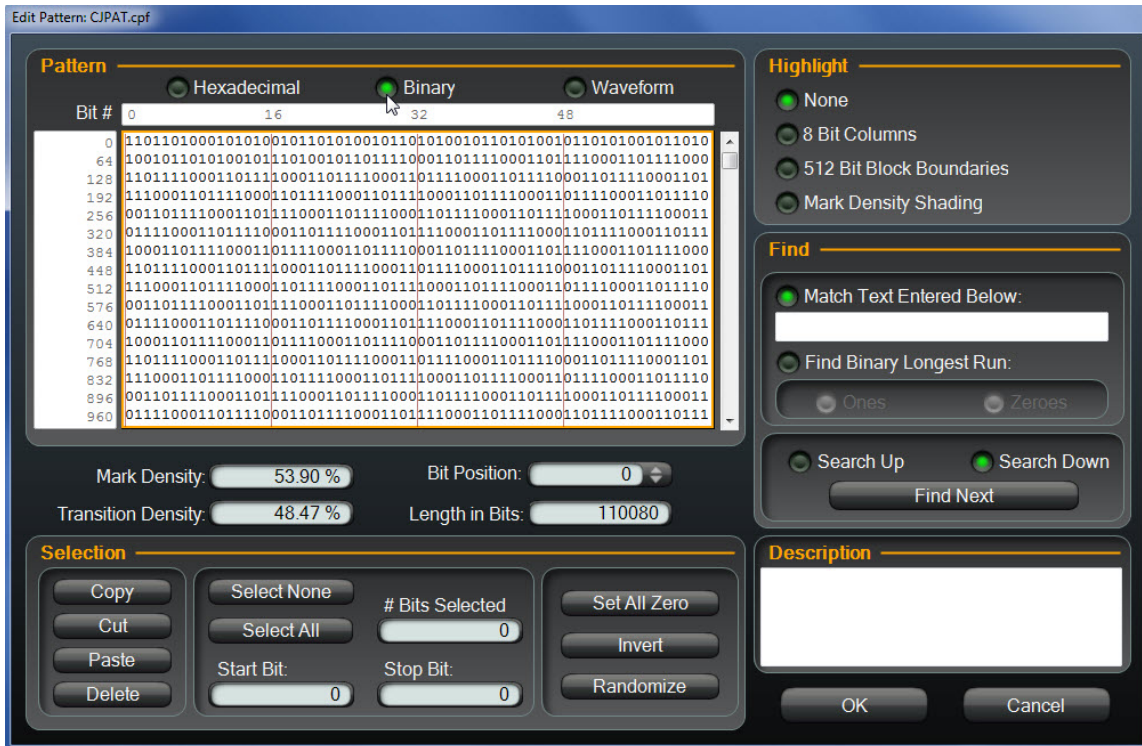

Figure 82. Binary view
2. To view the pattern in binary, select **Binary** as shown in Figure 82.